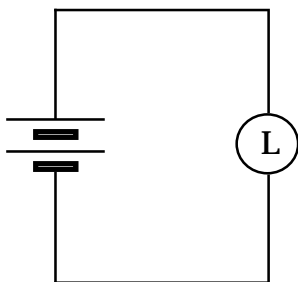
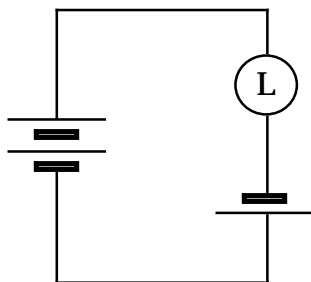

Figure 6.20a
Figure 6.20b
Figures 6.20b and 6.20c have an extra single cell that is not present in Figure 6.20a. The single cell in 6.20c is a “dueling” battery, with orientation reversed from 6.20b.
Using meters, make appropriate measurements from the circuit in Figure 6.20b only and complete Table 6.20.
5. Is the circuit in Figure 6.20b “re-energizing” the single cell? Explain.